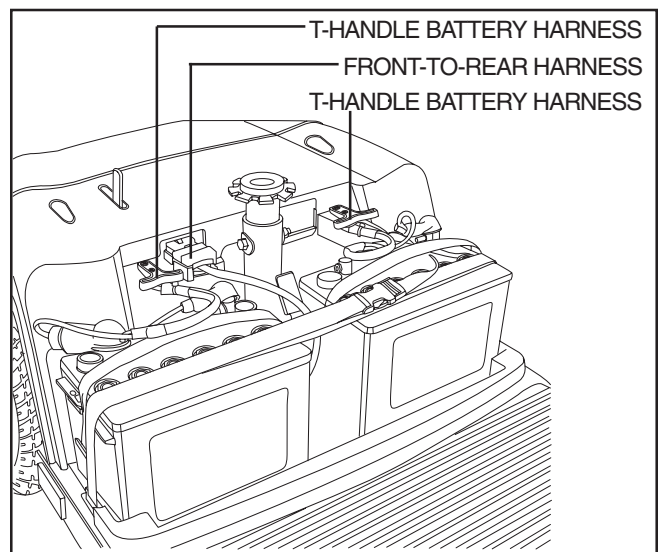

Figure 15. Harness Connections
5. Unplug both T-handle battery harnesses. See figure 15.
7. Unplug the front-to-rear harness. See figure 15.